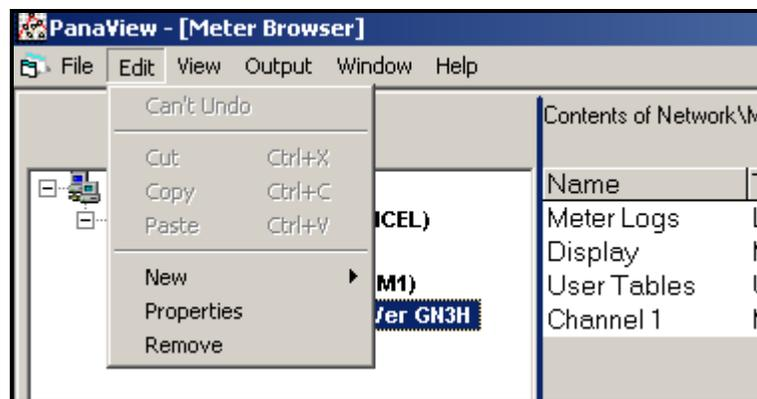

Figure 25: The *Properties* Option in the *Edit* Menu
2. Open the “*Edit*” menu and select the “*Properties*” option, as shown in Figure 25.